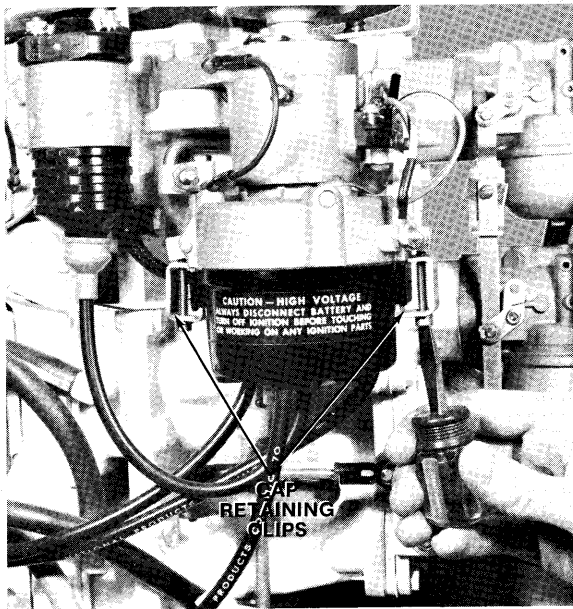

Figure 2—Removing Distributor Cap
- B. Remove distributor cap by loosening two (2) screws on cap retaining clips as shown in figure 2.
- G. Install distributor cap on distributor housing by aligning locating pin in distributor housing with hole in distributor cap. Secure distributor cap to housing as shown in figure 2.